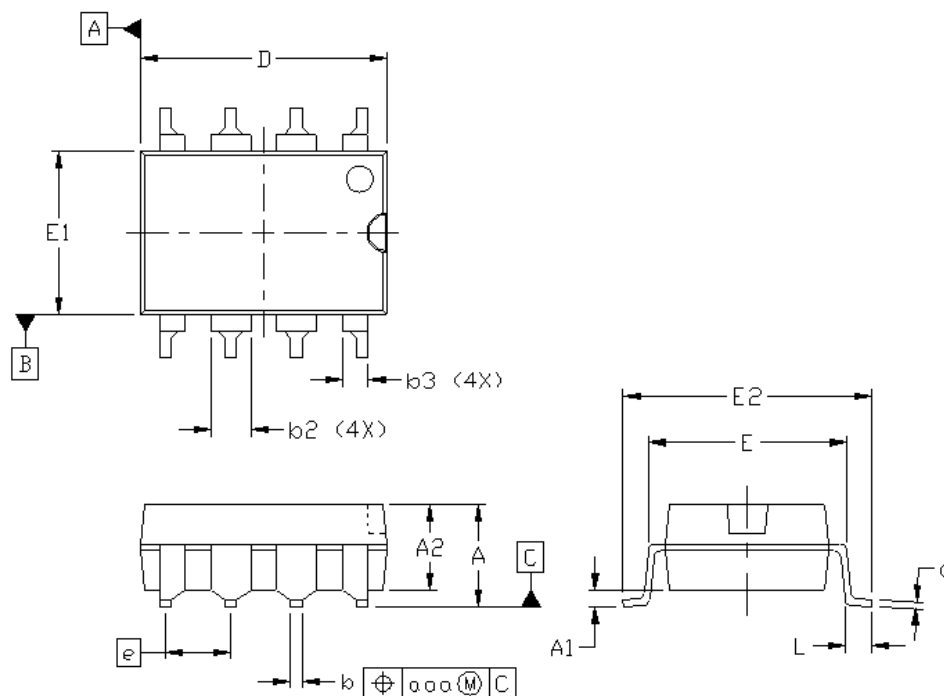

Figure 6.1. DIP8 Package
- Updated Figure 6.1 DIP8 Package on page 16.